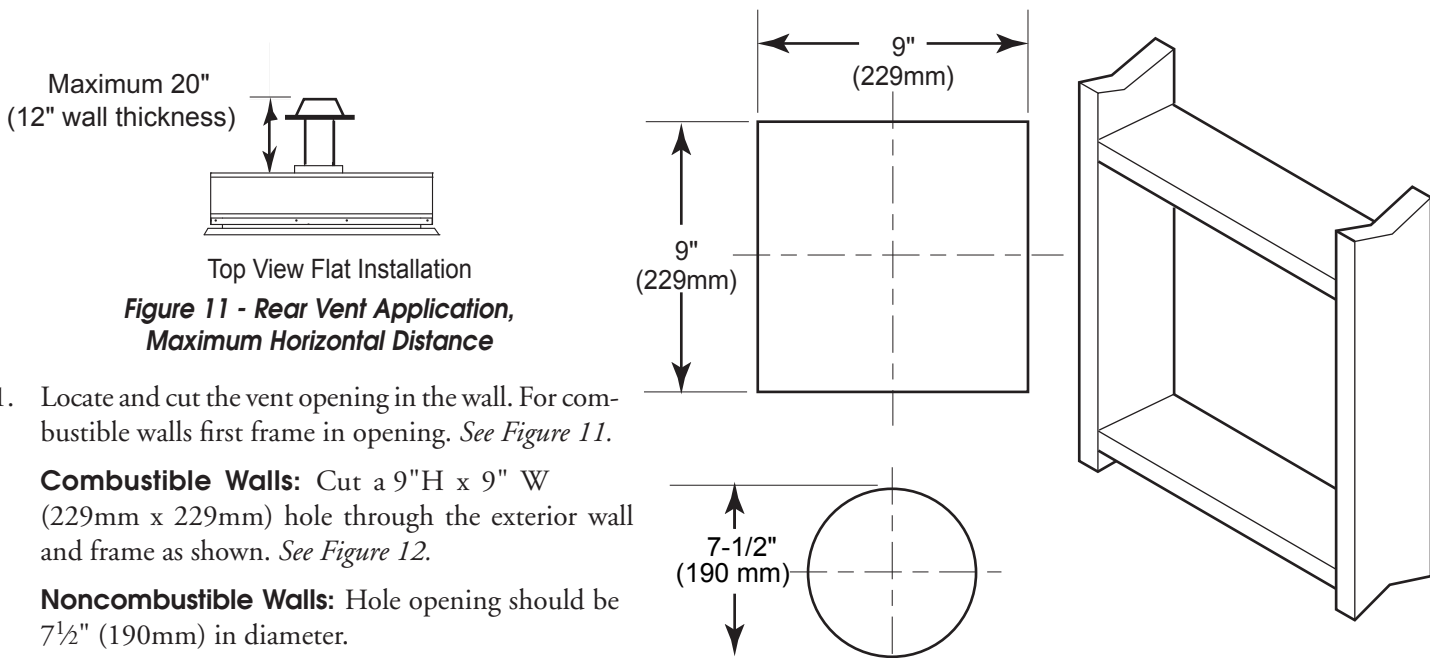

Figure 11 - Rear Vent Application, Maximum Horizontal Distance
- The maximum horizontal distance between the rear of the appliance and the outside of termination is 20" (508 mm). See *Figure 11*.
1. Locate and cut the vent opening in the wall. For combustible walls first frame in opening. See *Figure 11*.
3. Attach vent pipe assembly to the fireplace. Set fireplace in front of its permanent location to insure minimum clearances. Mark the wall for a 9"H x 9"W (229mm x 229mm) rectangle hole (for noncombustible material such as masonry block or concrete, a 7 1/2" [190mm] diameter hole is acceptable). See *Figure 11*. The center of the hole should line up with the center line of the horizontal rigid vent pipe end. Be sure to allow for minimum rise. Cut a 9"x9" (229mm x 229mm) rectangle hole through combustible exterior wall (7 1/2" [190mm] diameter hole if noncombustible). Frame as necessary. Allow 1/4" minimum rise per foot. See *Figure 12*.